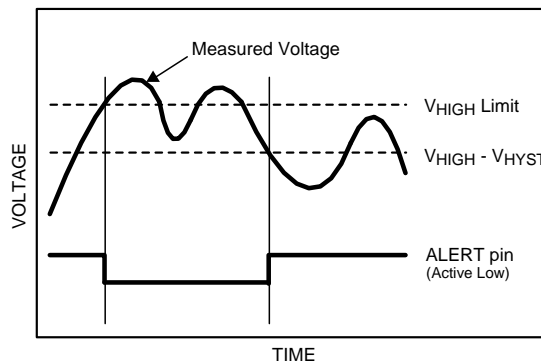

Figure 24. Alert condition cleared when measured voltage crosses  $V_{HIGH} - V_{HYST}$
The ALERT function is an "out-of-range" indicator. At the end of every conversion, the measured voltage is compared to the values in the  $V_{HIGH}$  and  $V_{LOW}$  registers. If the measured voltage exceeds the value stored in  $V_{HIGH}$  or falls below the value stored in  $V_{LOW}$ , an alert condition occurs. The Alert condition is indicated in up to three places. First, the alert condition always causes either or both of the alert flags in the Alert Status register to go high. If the measured voltage exceeds the  $V_{HIGH}$  limit, the Over Range Alert Flag is set. If the measured voltage falls below the  $V_{LOW}$  limit, the Under Range Alert Flag is set. Second, if the Alert Flag Enable bit is set in the Configuration register, the alert condition also sets the MSB of the Conversion Result register. Third, if the Alert Pin Enable bit is set in the Configuration register, the ALERT output becomes active (see Figure 24). The ALERT output (ADC101S021 only) can be configured as an active high or active low output via the Polarity bit in the Configuration register. If the Polarity bit is cleared, the ALERT output is configured as active low. If the Polarity bit is set, the ALERT output is configured as active high.
2. The measured voltage goes below the programmed  $V_{HIGH}$  limit minus the programmed  $V_{HYST}$  value and the Alert Hold bit is cleared in the Configuration register. (see Figure 24). If the Alert Hold bit is set, the alert condition persists and only clears when a one is written to the Over Range Alert Flag bit.